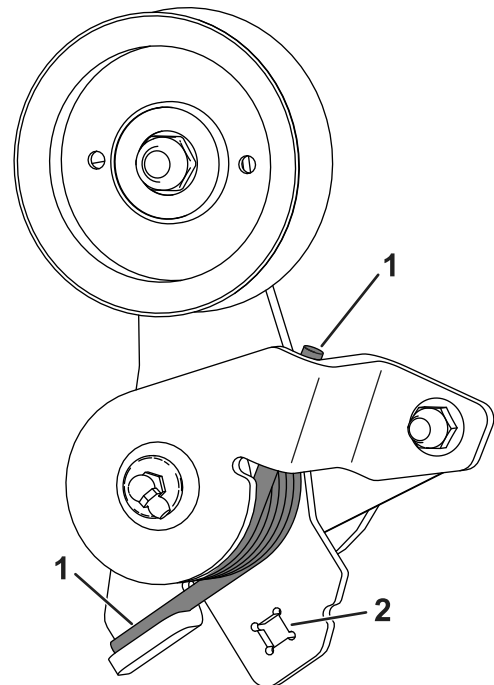

Figure 7
4. Install the install the spring ends as shown in Figure 7.
5. Using a 3/8 inch ratchet in the square in the idler arm, rotate the idler arm and install the belt around the idler pulley (Figure 7).